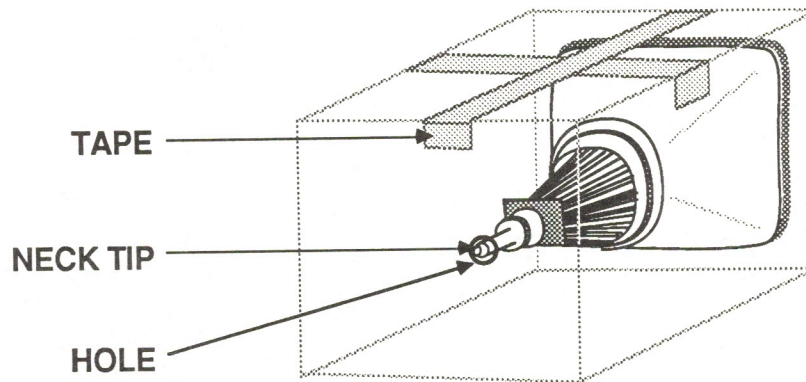

FIGURE 2
3. Place the CRT inside the box with the tip of the neck protruding through the hole, and tape the box flaps down with the duct tape (Figure 2).